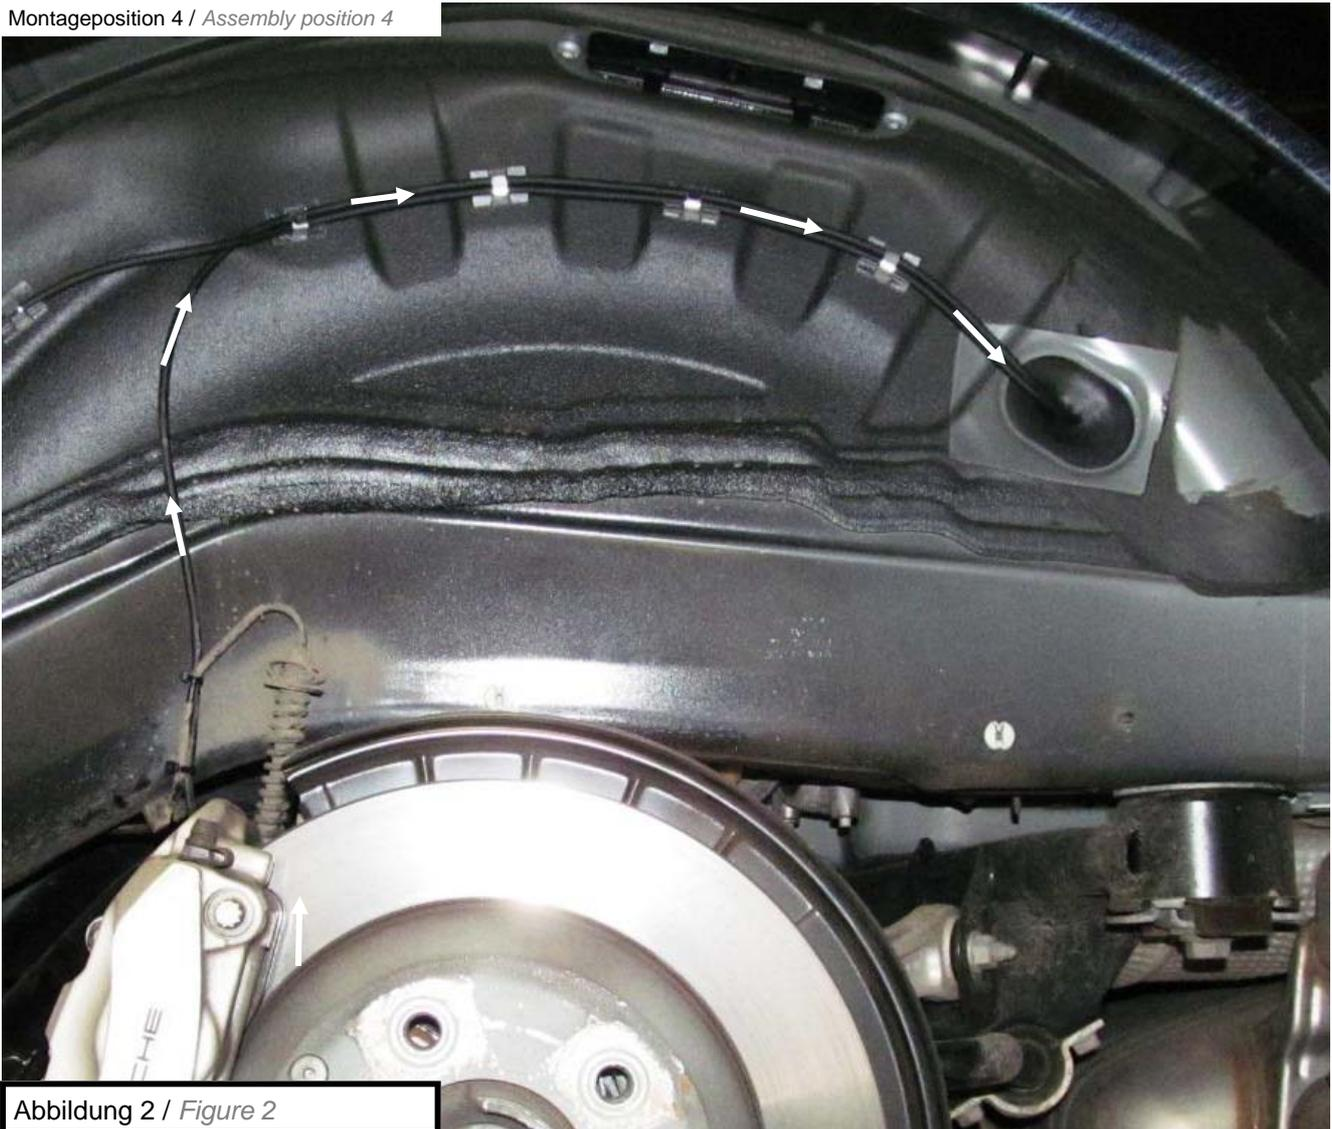

Abbildung 2 / *Figure 2*
*Figure 2 shows a vehicle without 4-zone automatic climate control.*